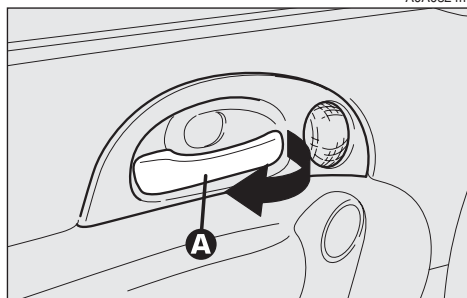

fig. 11
- To open the door, pull the handle (A-fig. 11).